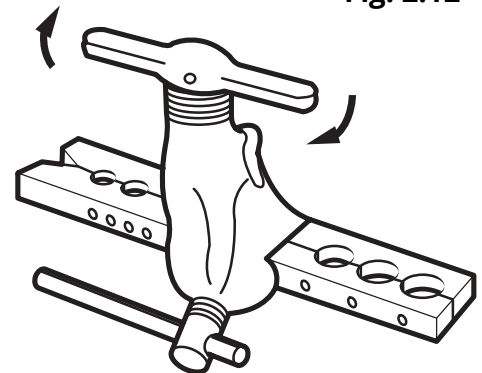

Fig. 2.13
6. Clamp flare form on the end of the pipe. The end of the pipe should extend ~ 1/16 in (1.6 mm) beyond the edge of the flare form as shown in **Fig. 2.13**